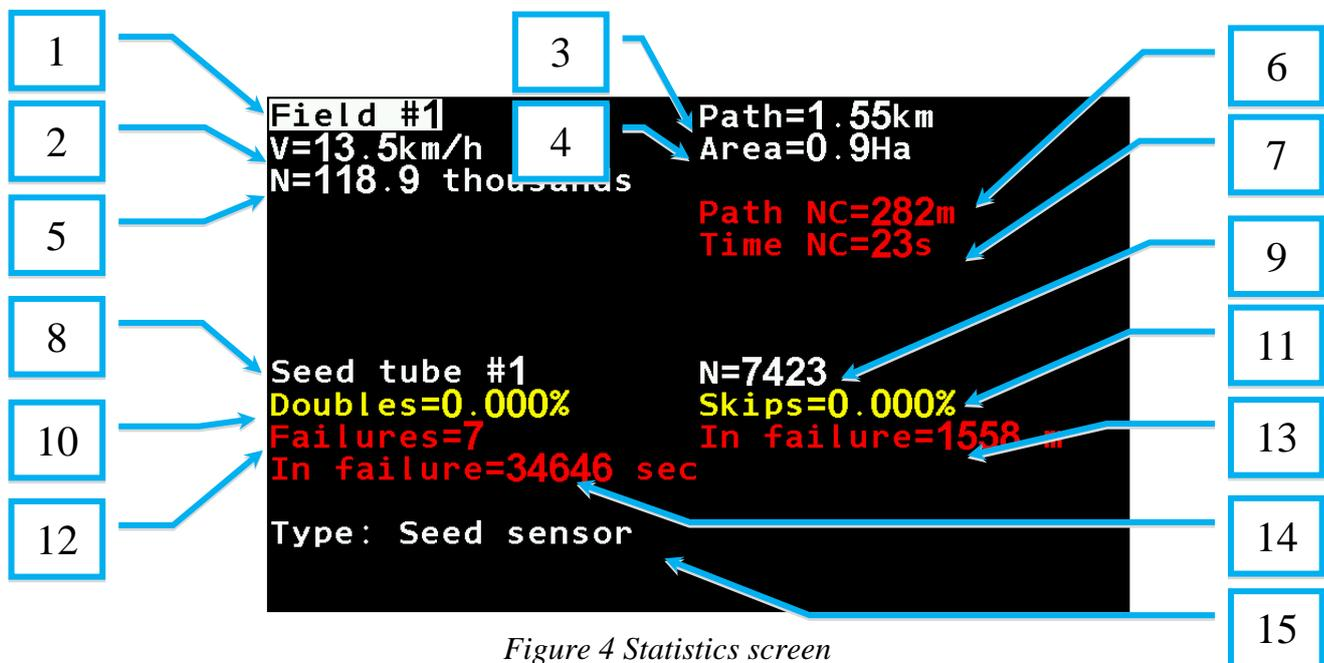

Figure 4 Statistics screen
- Cumulative statistics screen, see Figure 4.